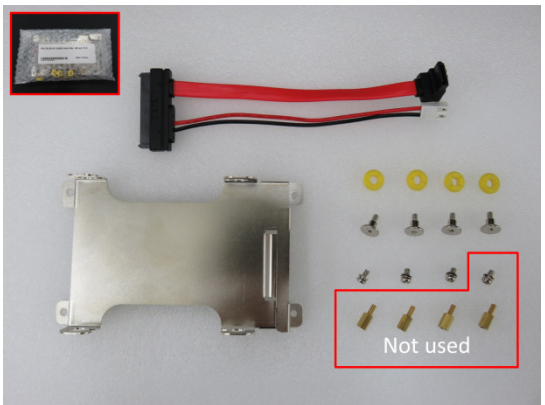

Figure 8
4.2.1.1 Arrange all the components from the hard disk installation package as shown in Figure 8.